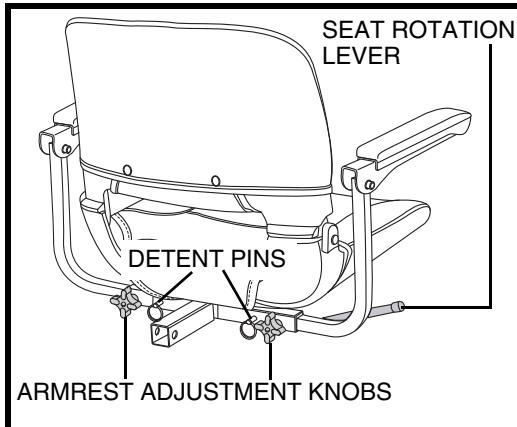

Figure 16. Seat Adjustment
1. Pull up on the seat rotation lever to disengage the seat. See figure 16.
1. Loosen the armrest adjustment knobs. See figure 16.